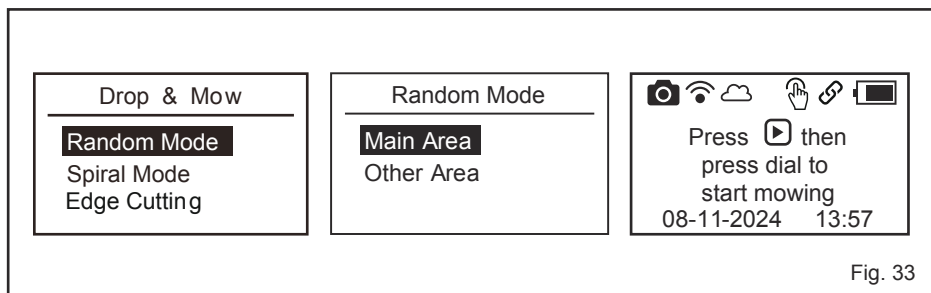

Fig. 33
- Select Random Mode, Spiral Mode or Edge Cutting by turning the Dial. Press the Dial to confirm (Fig. 33).
- Press the Dial to confirm (Fig. 33).